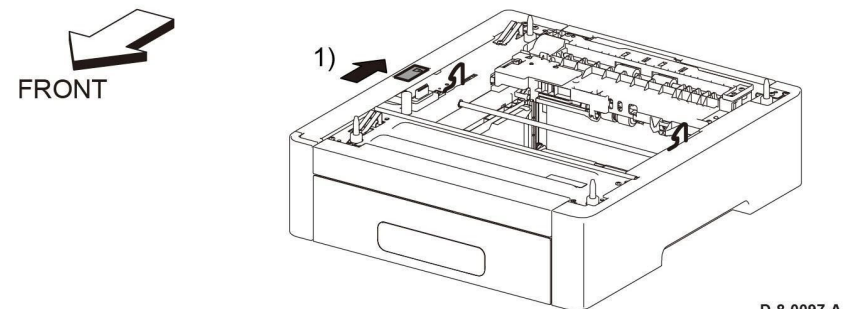

Figure 1 Remove the OPF 550 feed tray assembly
2. Hold the recessed areas on both sides and raise the printer to separate it from the OPF 550 feed tray assembly, Figure 1.